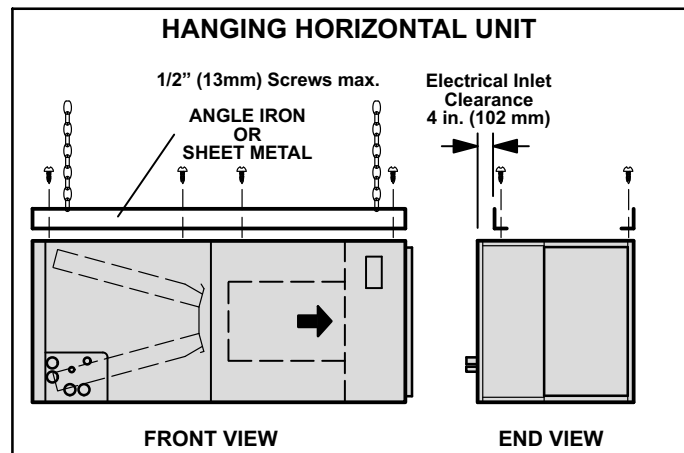

FIGURE 16
- 3- If hanging the unit, it must be supported along the entire length of the cabinet. If using chain or strap, use a piece of angle iron or sheet metal attached to the unit (either above or below) so that the full length of the cabinet is supported. Use securing screws no longer than  $1/2"$  (13mm) to avoid damage to coil or filter. See figure 16. Connect return and supply air plenums as required using sheet metal screws.
- 13- If hanging the unit, it must be supported along the entire length of the cabinet. If using chain or strap, use a piece of angle iron or sheet metal attached to the unit (either above or below) so that the full length of the cabinet is supported. Use securing screws no longer than 1/2" (13mm) to avoid damage to coil or filter. See figure 16. Connect return and supply air plenums as required using sheet metal screws.